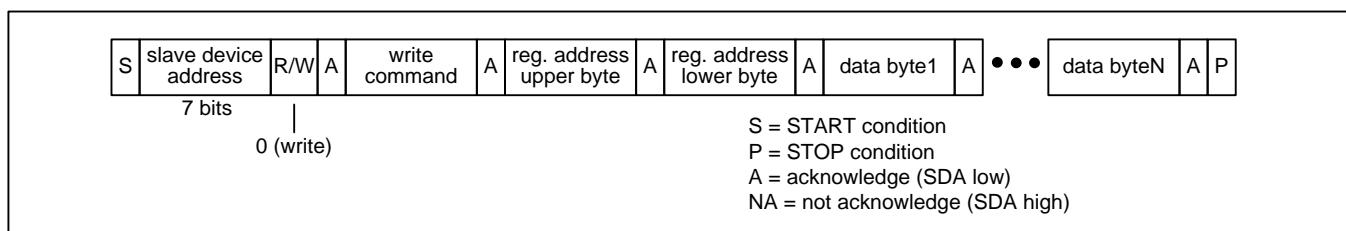

Figure 15 – I²C Register Write Transaction Functional Timing
Register Write Transactions. The device registers are accessible when EESEL=0. The bus master does an I²C write to the device. The first three bytes of this transaction are the SPI Write command (see Table 4), the upper byte of the register address, and the lower byte of the register address. Subsequent bytes are data bytes to be written. After each data byte is received, the device writes the byte to the write address and then increments the write address. The bus master terminates the write with a STOP condition (P). See Figure 15.